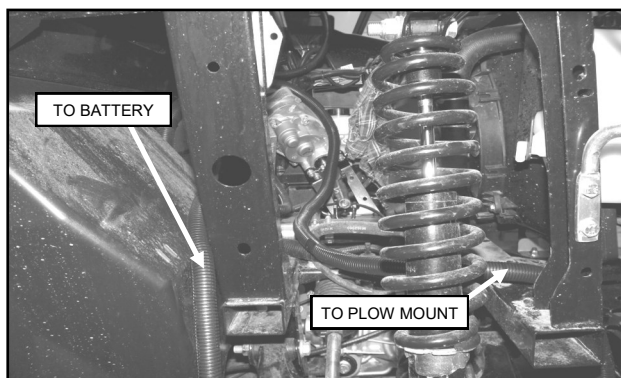

Fig. 3.3 (Running Harness, Passenger Side)
3.3 Run the Main Harness from the Plow Mount to under vehicle's hood per fig 3.3. Make sure that the harness is clear of the suspension and steering components as well as the tire.